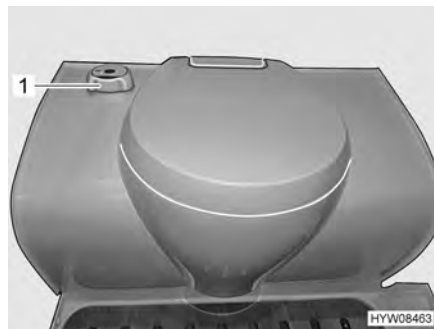

Fig. 108 Thetford toilet
- Turn the handle (Fig. 108,1) in an anticlockwise direction.
- Turn the handle (Fig. 108,1) clockwise.